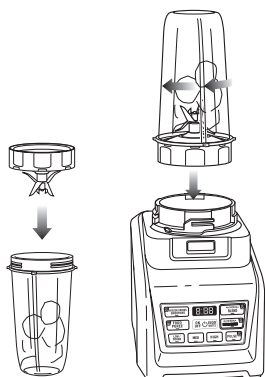

Fig. 2
- 3 Place the Pro Extractor Blades® Assembly onto the cup and tightly screw it on clockwise until you have a good seal. (Fig. 2)